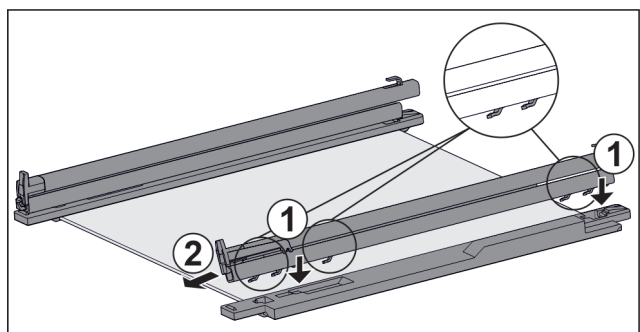

Fig. 54 Glass shelf with rails and retaining parts
- ▶ Place rail hooks onto the openings of the **left** retaining part. *Fig. 54 (1)*
- ▶ Push rail forwards. *Fig. 54 (2)*
- ▶ Place rail hooks onto the openings of the **right** retaining part. *Fig. 54 (1)*